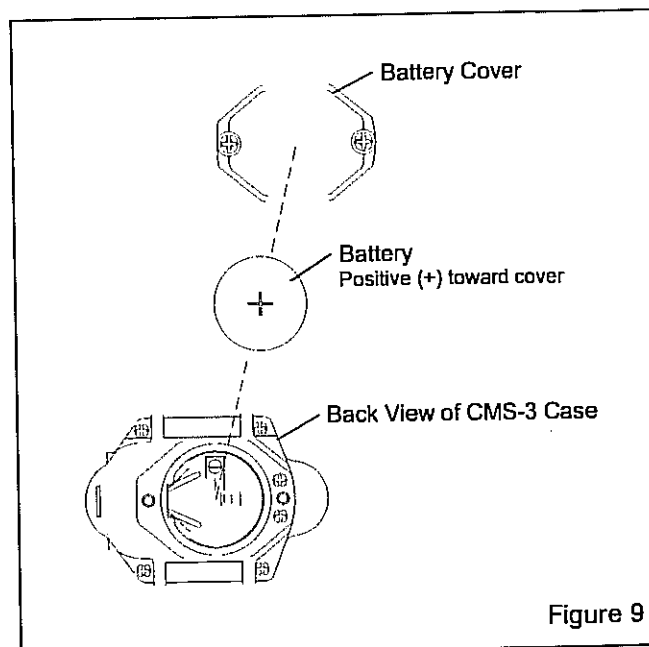

Figure 9
5.1 Replacing the Lithium Battery, Refer to Figure 9